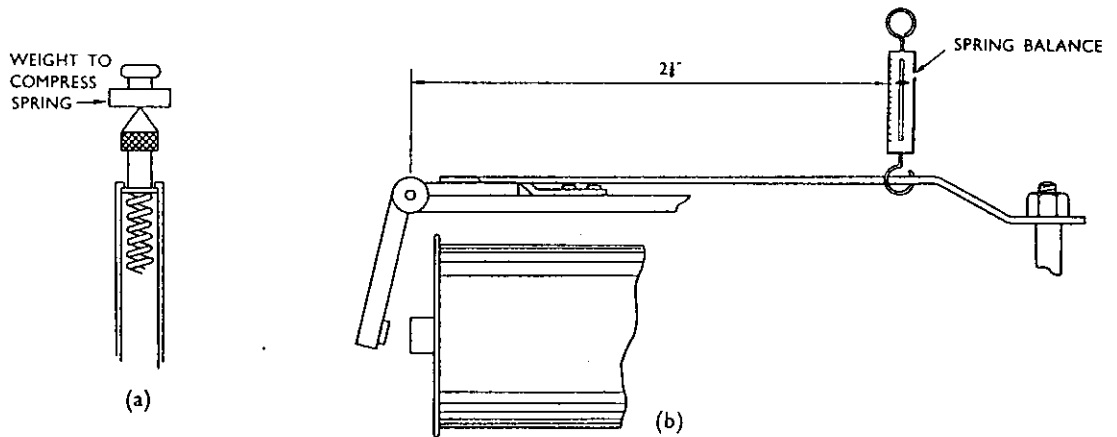

Fig. 5.2 Plotting tables Mks. 6 to 9* - Pencil unit tests
13. The pencil spring is tested as shown in Fig. 5.2(a). The spring should commence to yield with a weight of 4 oz and should close completely with 5 oz.
16. The spring of the ~~time~~ time marking device is tested as shown in Fig. 5.2(b) and the conical bearing should lift with a pull of 6-7 ozs.